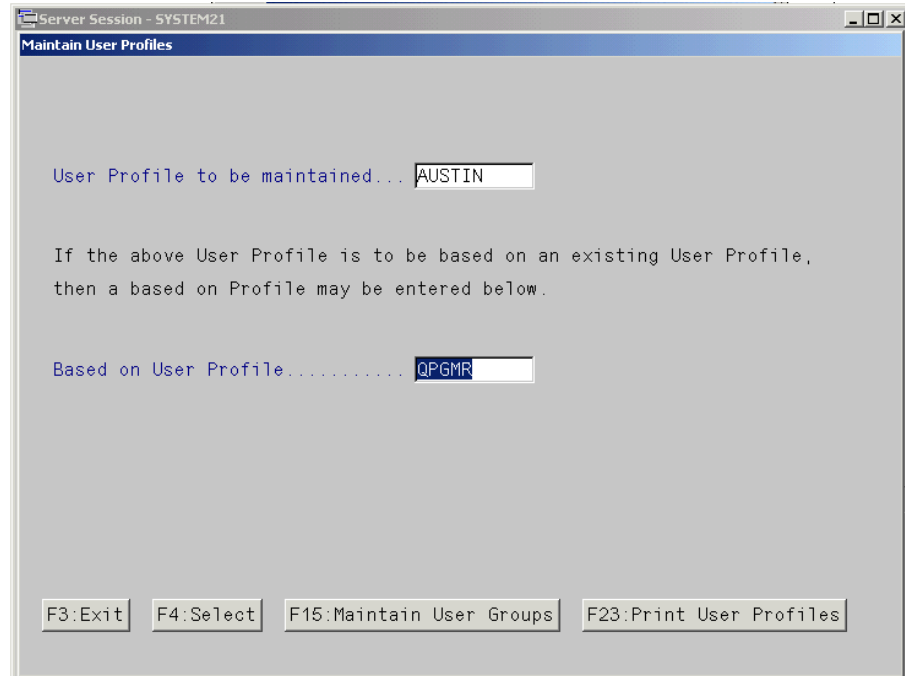

Figure 58. Creating a user based on QPGMR
7. For this initial setup and test, enter QPGMR into the Based on user profile field as shown in Figure 58. Press Enter to create a user.